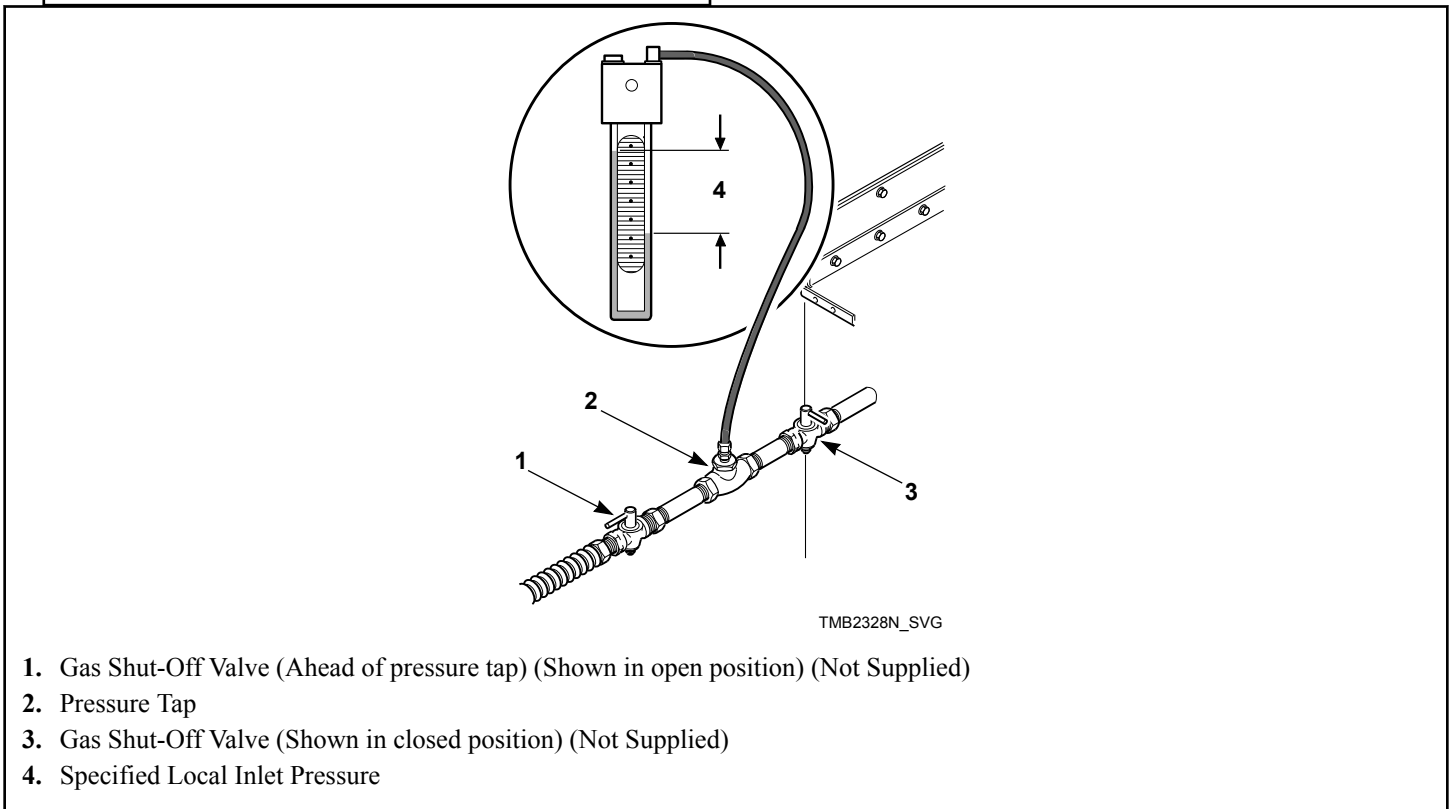

Figure 19
1. Disconnect electrical power from tumble dryer. Close gas shut-off valve to tumble dryer. Refer to *Figure 19* .